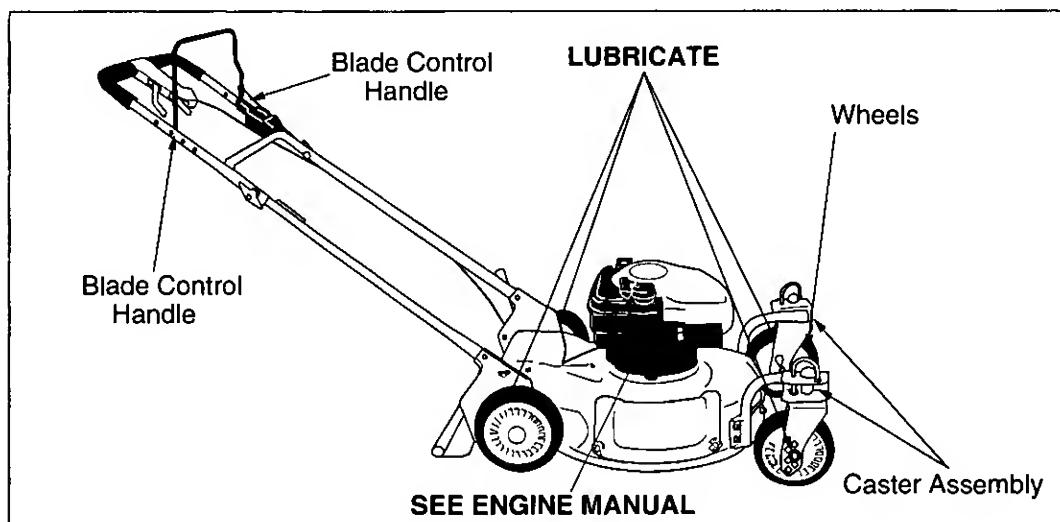

Figure 11
season with light oil. See Figure 11. The blade control must operate freely in both directions.
**Wheels:** Lubricate the wheel at least once a season with light oil (or engine oil). Also, if the wheels are removed for any reason, lubricate the surface of the axle bolt and the inner surface of the wheel with light oil. See Figure 11.